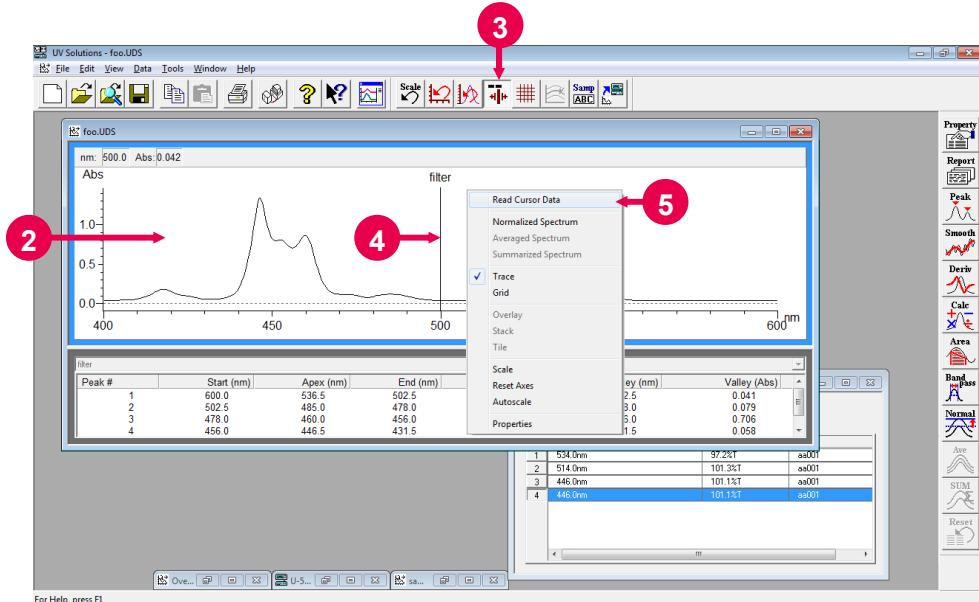

Fig. 5-59
(4) Click the spectrum display window (refer to (2) in Fig. 5-59).
(5) Click the  (Trace) button on the Spectrum toolbar (refer to (3) in Fig. 5-59.) A trace cursor will appear on the spectrum (refer to (4) in Fig. 5-59.)
(6) Move the trace cursor to a desired position on the spectrum and click the right button of the mouse. A menu box will appear. Select "Read Cursor Data" from the menu box (refer to (5) in Fig. 5-59). The wavelength and photometric value will be read into the Read Data box.